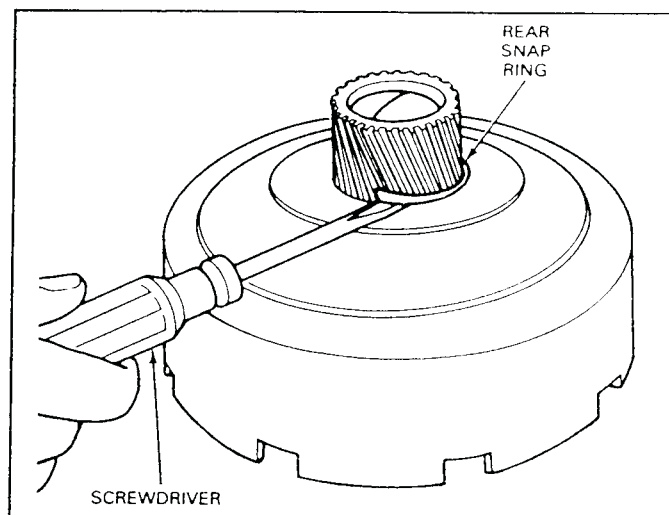

FIG. 53 Removing Sun Gear Snap Ring
1. Remove the rear snap ring from the sun gear as shown in Fig. 53.